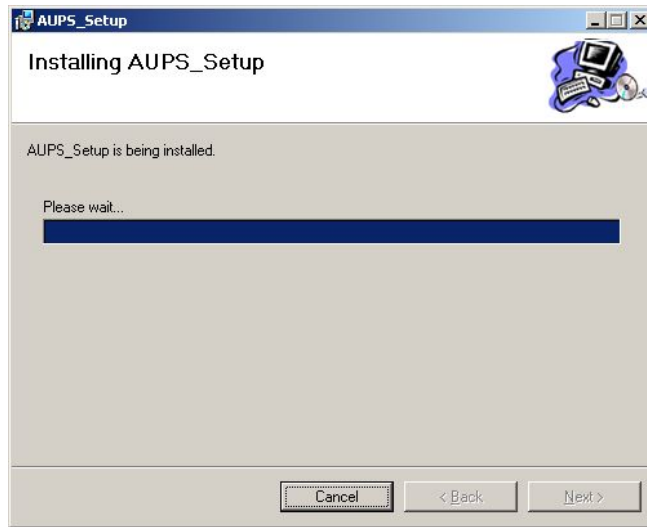

Figure 7-4: Installing AUPS
Step 5: Click **NEXT** to continue. The Installing AUPS_Setup screen appears as the program is installed (**Figure 7-4**).